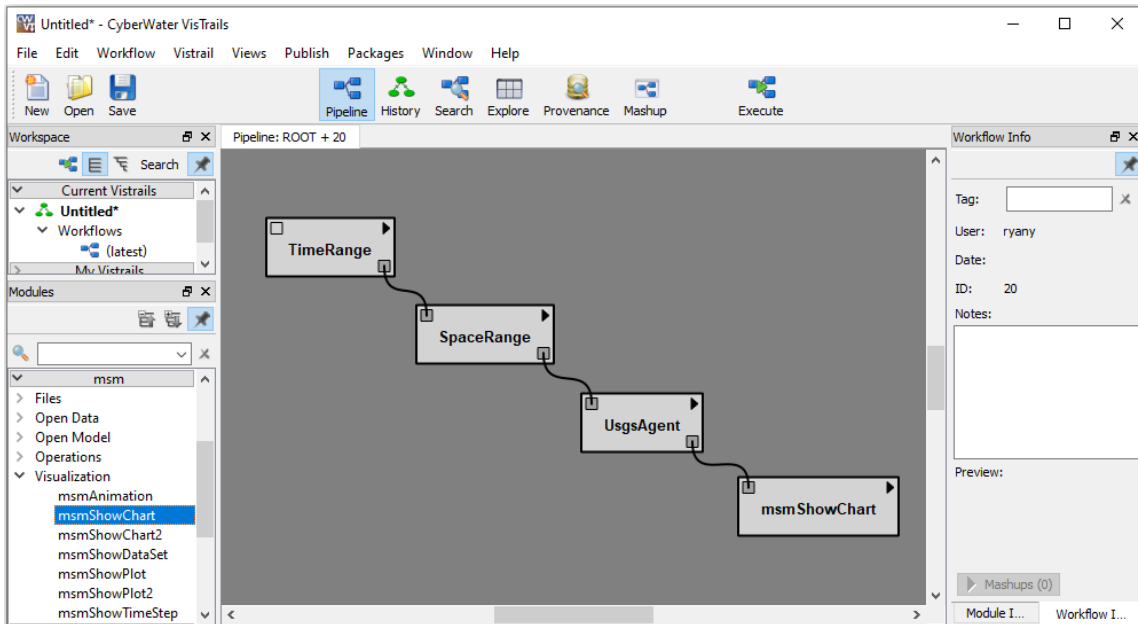
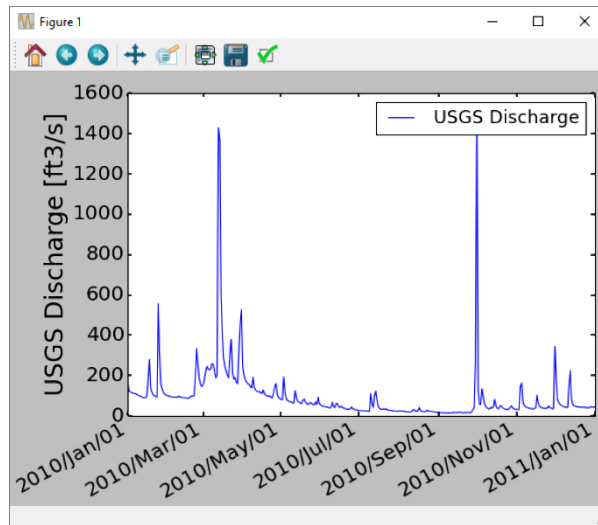
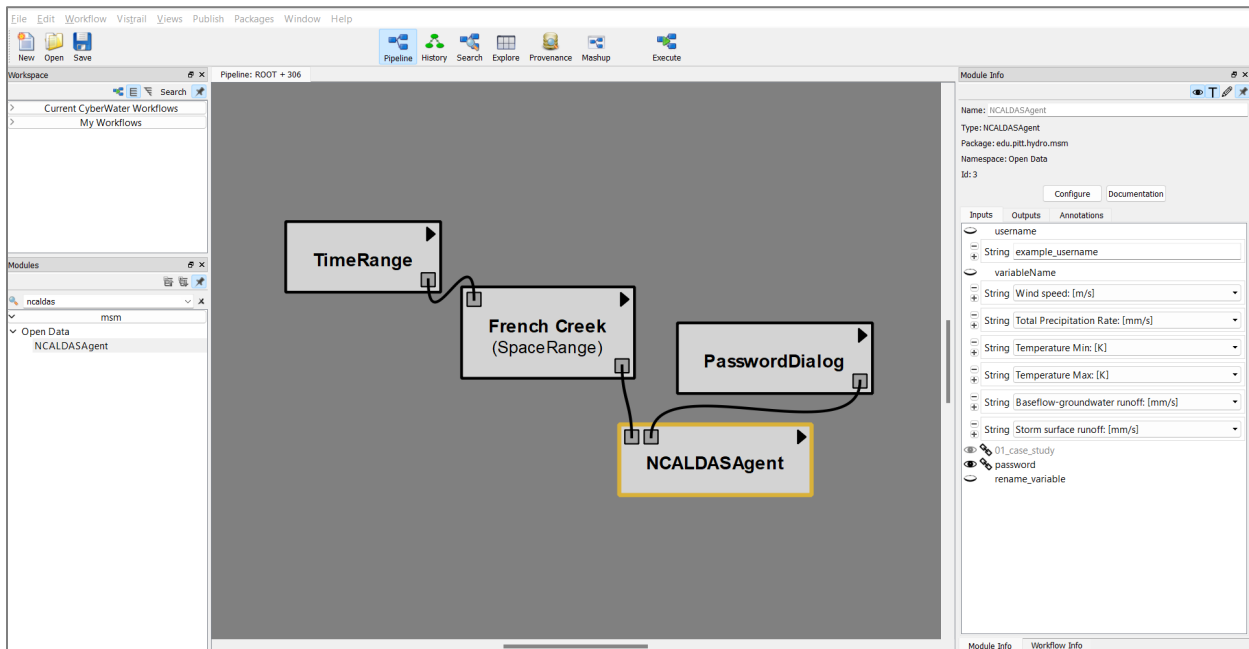
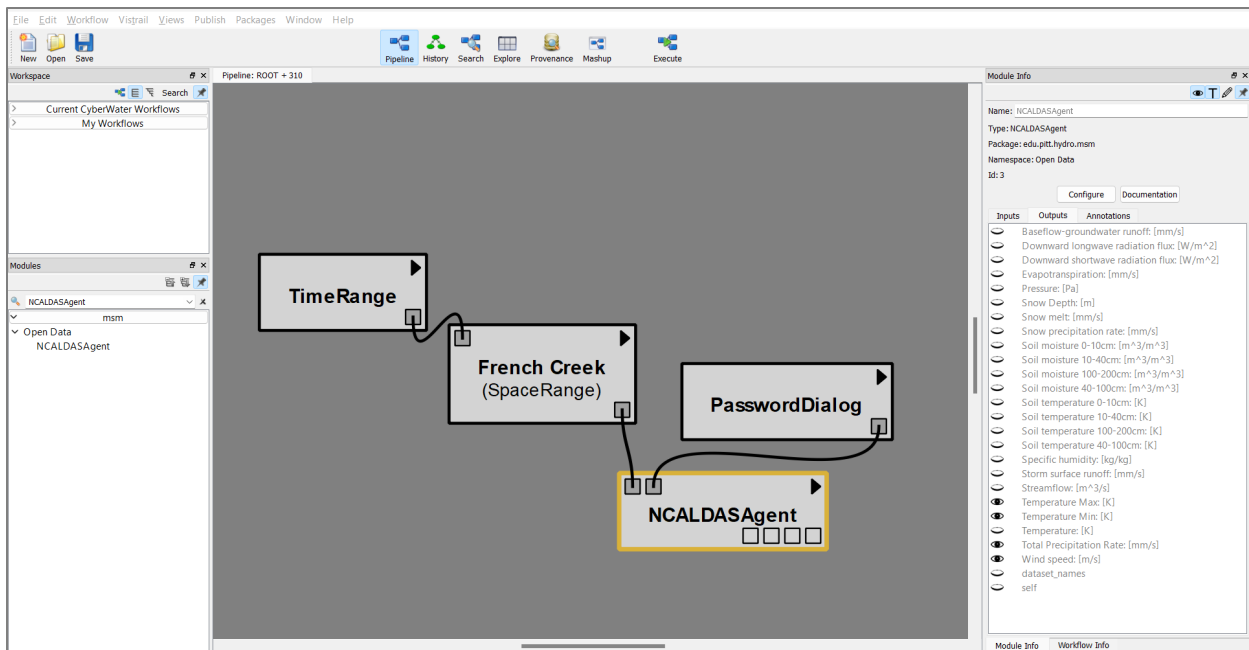

Figure 23. Workflow depicting a case study to download and plot streamflow values of the French Creek basin.
Figure 24. A plot of the French Creek streamflow time series retrieved by CyberWater’s USGS Agent.
Figure 26. NCALDASAgent module to download forcing data.
Figure 27. Activating output ports corresponding to the chosen forcing data in NCALDASAgent
For example, if the user uses the *UsgsAgent*1, a Data Agent for accessing USGS online data sources, and the *msmShowChart*2, a module for displaying time series, to build the workflow as shown in Figure 23 with default values, the chart depicted in Figure 24 will automatically be prompted after clicking the *Execute* icon on the top toolbar of *CyberWater VisTrails*. The example workflow can be found either under the folder **C:\CyberWater\VisTrails\examples**, or on CyberWater online webpage <1. USGS Data Retrieval and Visualization>.
- Add an *NCALDASAgent*1 module and fill it with your NASA Earth Data credentials. The user is also able to use the *PasswordDialog*2 module to collect password information at runtime instead of saving the information in the data agent. To use *PasswordDialog*, first click the icon (👁) to the left of the 'password' variable in the *NCALDASAgent* to make the password input visible, then connect the *PasswordDialog* output to the new input square. In *NCALDASAgent*, the input 'variableName' is a list-box with all the variables available. Select 'Wind speed: [m/s]', 'Total Precipitation Rate: [mm/s]', 'Temperature Min: [K]' and 'Temperature Max: [K]' as shown in Figure 26. These are the forcing data required by VIC4 model. Then activate the output ports corresponding to the previous four forcing data from the *Outputs* panel as shown in Figure 27. It takes about 7 to 10 minutes to download these forcing data from NASA database, depending on the internet speed of the local machine. Note that the relevant information is stored locally at ('CyberWater\VisTrails\visitrails\packages\msm\utils\uploaded\user\_data\_agents\NCALDASAgent\downloads') and will be used again if the user requests the same spatial and temporal extent for that specific NCALDAS variable. This prevents redownloading the same information in the future. The user is free to delete these files afterwards. At this point, the user is encouraged to use the 'msmShowChart' (as displayed in Figure 23) to plot a time series of the daily Wind Speed (for example), averaged around the area defined in the case study by connecting the *msmShowChart* with the output port of the Wind Speed [m/s]. The plot obtained is an area-average of the spatial data of Wind Speed.
Users can then conveniently select and drag-and-drop the resulting module—identified by a "\_g" suffix—from the module panel. This can be incorporated into their workflow in the same manner as the VICAgent module, as illustrated in Section 3.1.1. This approach significantly streamlines the workflow setup process, making it more accessible and efficient for users. User can resume the workflow from what Figure 27 shows, and simply replace the VICAgent module with VIC4Agent\_g module by following steps with the configuration, parameters and initial state files required by the VIC4 model for the Indiantown Run watershed. All the parameter values used in the following example are default values that can be modified in the future by the user to perform parameter calibrations. These data files are available at *Hydroshare* at: